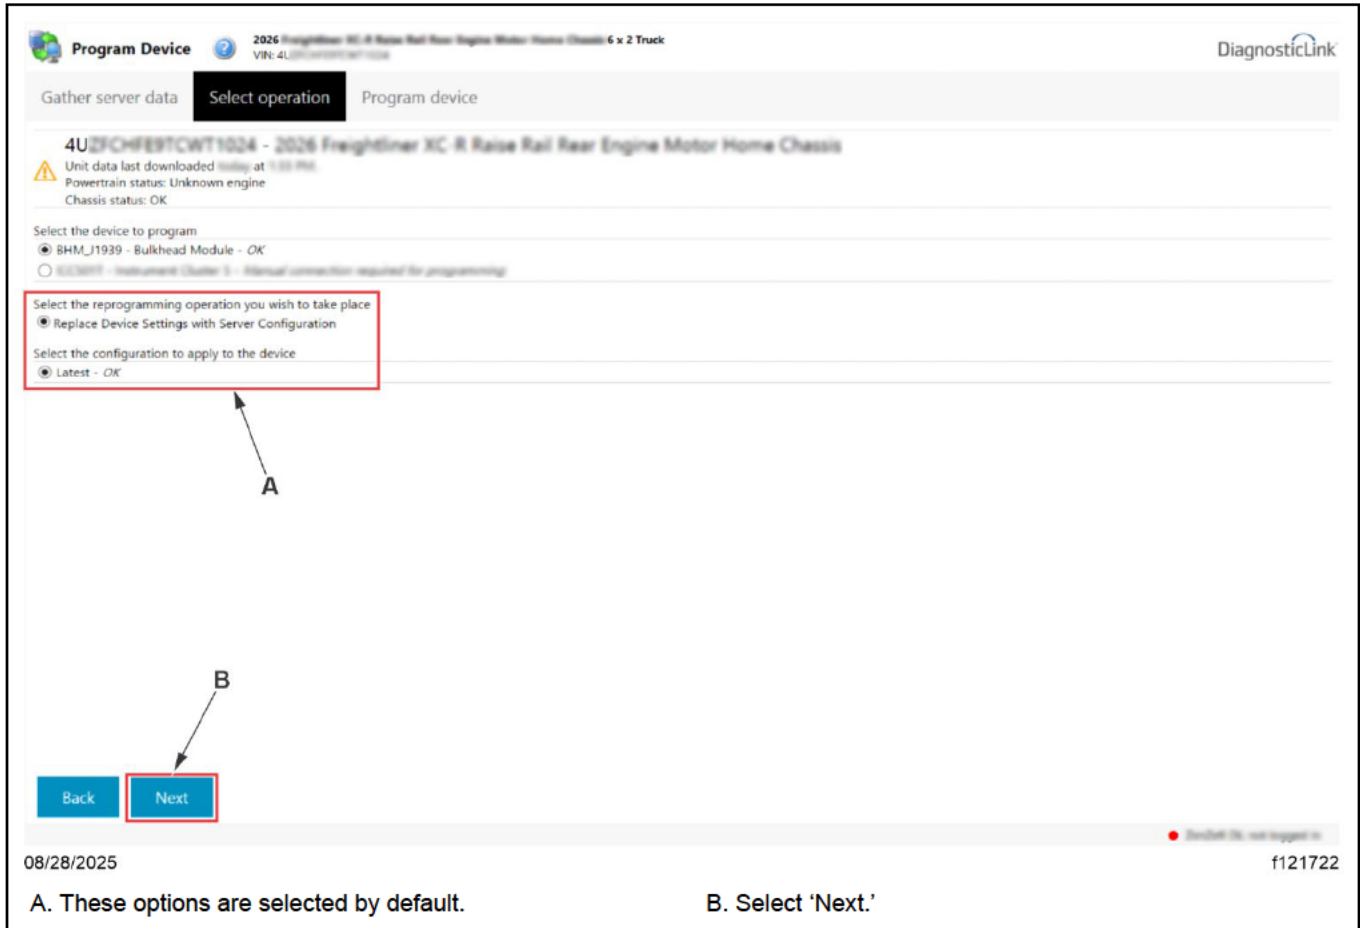

Fig. 4, Selecting the Reprogramming Operation and Configuration
12. The reprogramming operation and the configuration are selected by default. Select 'Next.' See Fig. 4.